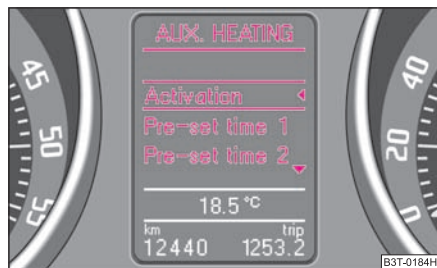

Fig. 116 Information display: Aux. Heating (auxiliary heating)
- In the menu **Aux. heating** ⇒ fig. 116 select the menu **Weekday** and set the current day.